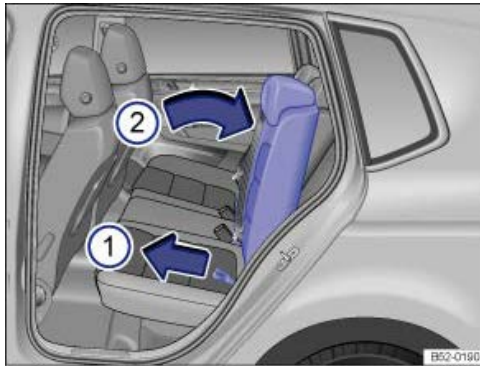

Fig. 95 Adjusting the rear bench seat backrest.
- Push down on the left-hand or right-hand side of the backrest with one hand and simultaneously pull on the corresponding loop with the other hand → Fig. 95 ①.
- Adjust the rear seat backrest to the required position with your hand against the spring pressure → Fig. 95 ②.